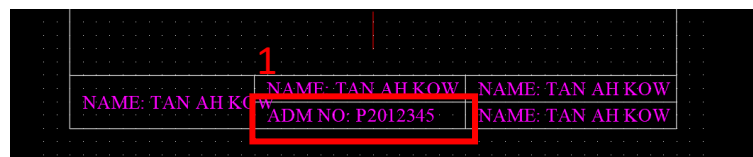
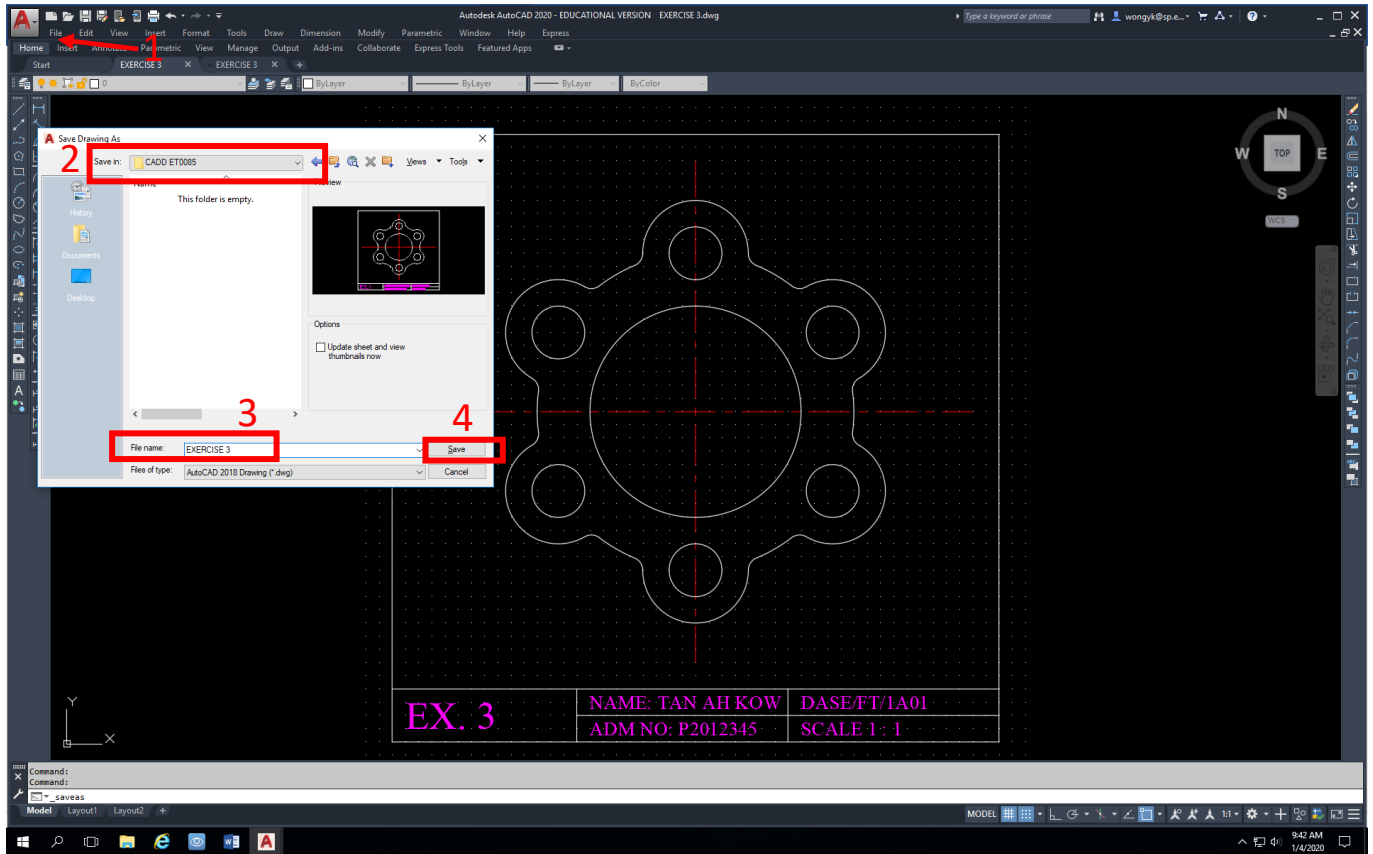

Fig 16
FIG 33
- viii. See Fig 16 below.
1. Save this drawing as shown in Fig 16:
- iii. Save in: **D Drive in your Notebook, create a folder= CADD ET0085**(2) instead of default "Documents"
- iv. File Name (3): **EXERCISE 3**, then click **Save** ...(4)
- v. See Fig 33 indicating steps to save accordingly.